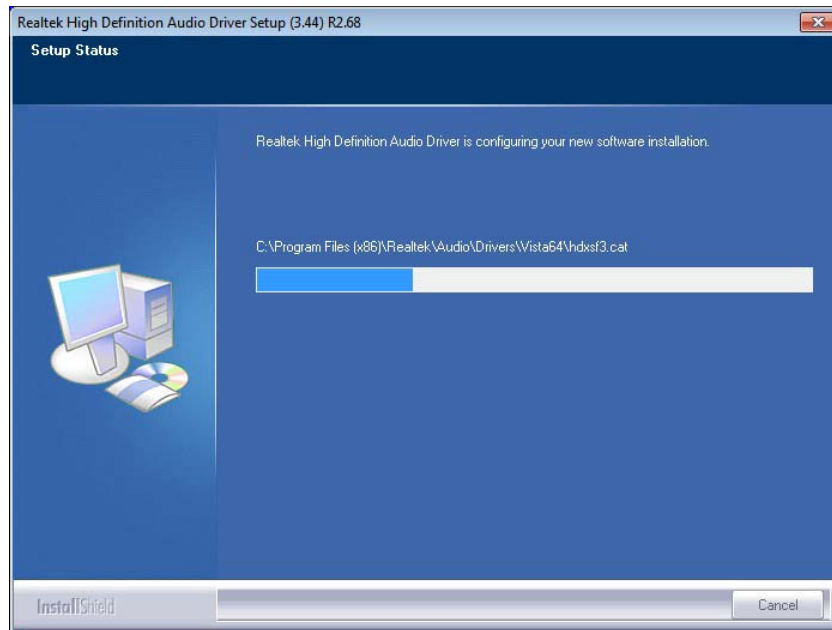

Figure 6-21: Audio Driver Software Configuration
- Step 7:** InstallShield starts to install the new software as shown in **Figure 6-21**.